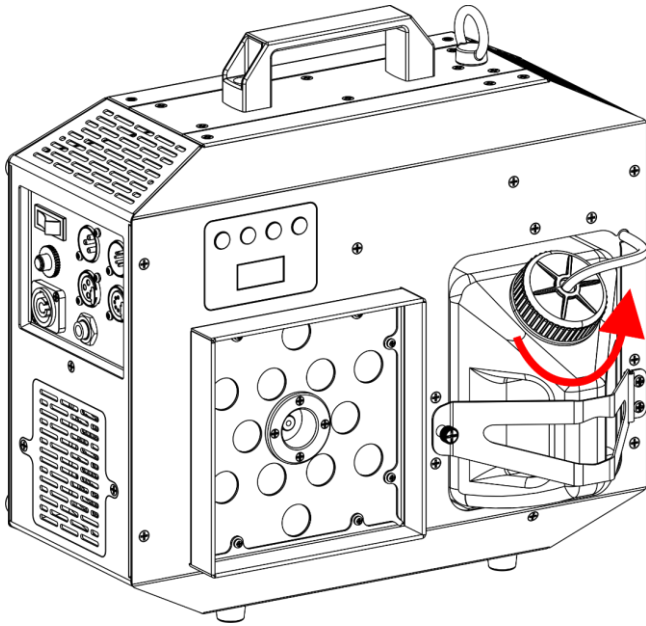

Fig. 06
- 01) Put the device in a vertical position and unscrew the lid on the fluid tank, as shown in Fig. 06.